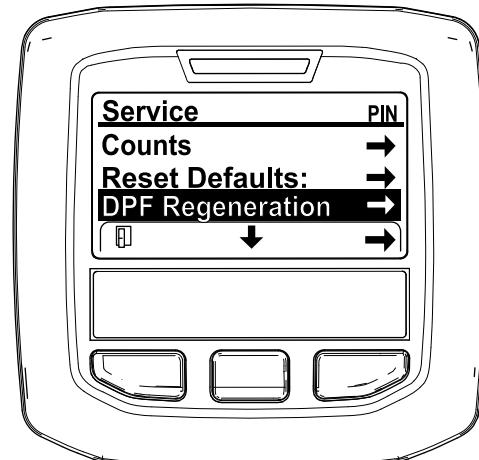

Figure 27
- In the SERVICE MENU, press the middle button until the DPF REGENERATION options displays, and press the right button to select the DPF REGENERATION option (Figure 27).